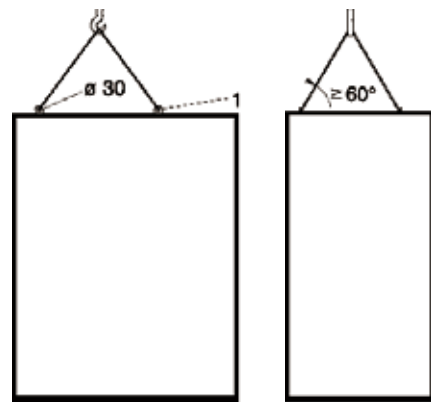

Figure 1/1: Handling by crane
- Maintain an angle of at least 60° from the front for the ropes leading to the crane hook (Figure 1/1)